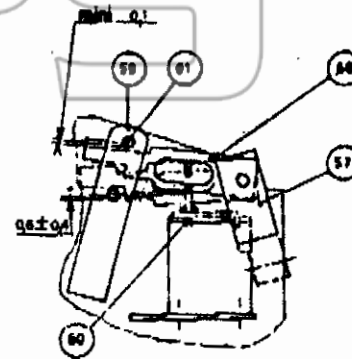

Fig. 23
- 2) Inspection. Place breaker in the closed position and inspect to see that a minimum of 0.5 mm (0.020 inch) exists between lever (28) and lug (12) of the lever (13) shown in the normal position. LIMIT OF WEAR: 0.1 mm (0.004 inch). Holding the striking pin (29) as illustrated in Fig. 23, apply rated voltage to the holding coil, placing release bar in unlatched position. Remove voltage and allow release bar to slowly withdraw observing
NOTE: In order to prevent blocking of the release bar from being reset when breaker opens, it is necessary to return release bar to its latched position by means of the hook illustrated in Fig. 23.
C. Undervoltage lockout (Fig. 23). When the undervoltage release is provided with lockout to prevent breaker reclosing upon voltage restoration, the